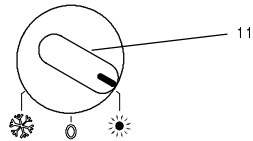

fig. 2.5
- 4 If domestic hot water supply only is required, position the function switch (11) as in fig. 2.5 (Combination boilers).